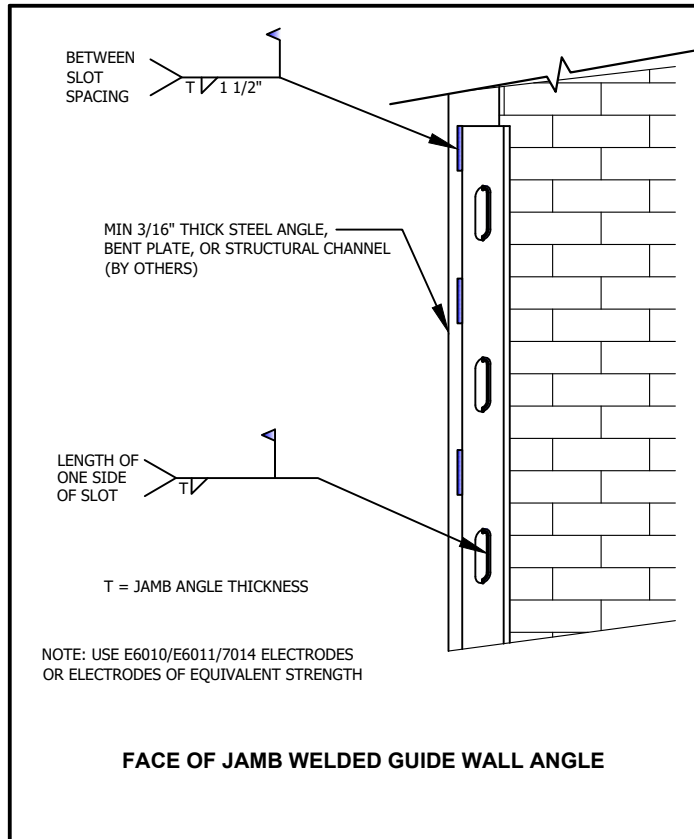

FIGURE 8
- ✓ Create weldments consistent only with the specifications shown in Figures 8 and 9.